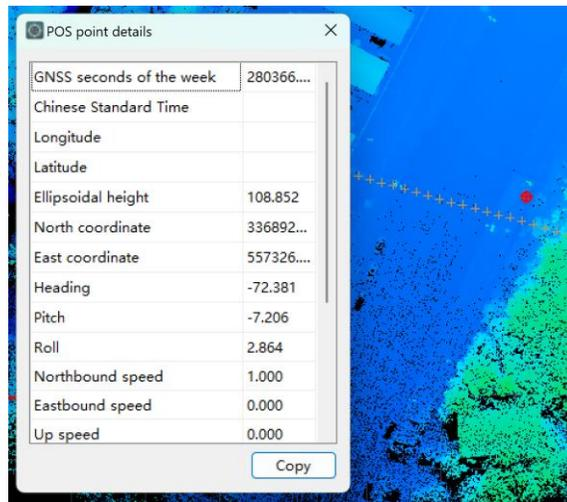

Figure 3-117 Point Details dialog box
- (1) Load the POS track file. Click menu <Tools>→ < POS point query>, the "Query POS point" tool is activated, the cursor turns into the state of selecting a point  .
- (2) Then click on the POS point that needs to be queried in the POS track (Figure 3-117), which displays detailed information of the queried POS point.
- (3) You can copy the point information to the clipboard by clicking the button **【Copy】**.